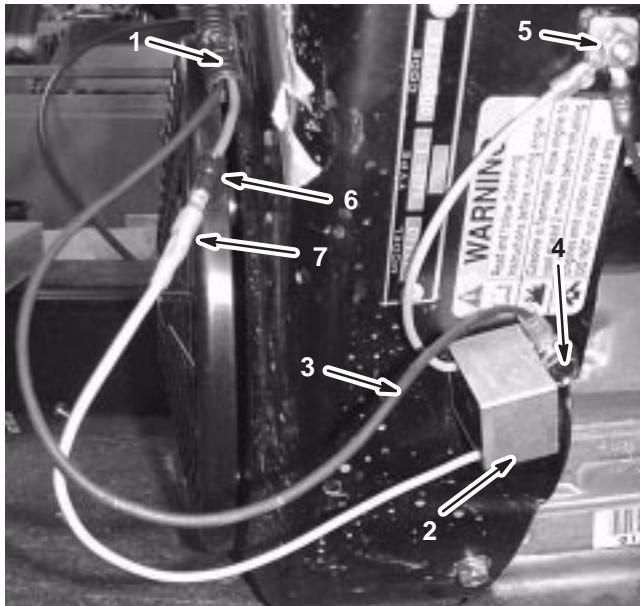

Figure 15
4. Install the new gray module and the black ground wire of the module wiring harness on the side of the engine towards the front of the engine compartment as illustrated in Figure 15. The ring terminal on the black ground wire of the wiring harness should be installed between the module and the module retaining bolt.
5. Connect the red connector from the wiring harness to the connector coming from the module (Fig. 15).
6. Connect the wire with the ring terminal on the module to the magneto kill terminal on top of the brown wire already there (Fig. 15).